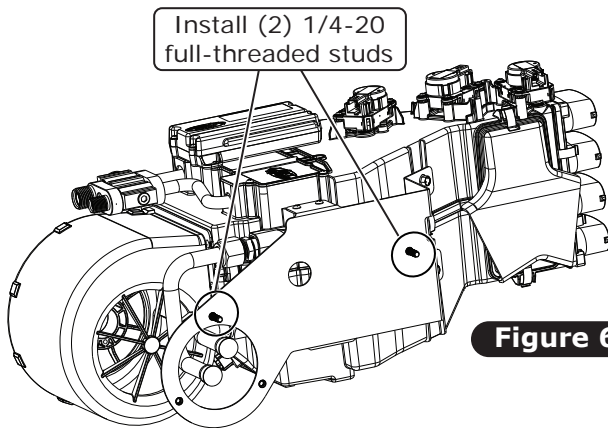

Figure 6
10. Install (2) 1/4-20 full-threaded studs, (1) on the top mounting hole of the passenger-side bracket and (1) on the driver-side bracket (See Figure 6, below). Thread the studs approximately 1/4" in. **NOTE: If the studs are sticking out too far, it may cause interference issues when mounting the unit under the dash due to the tight clearance.**